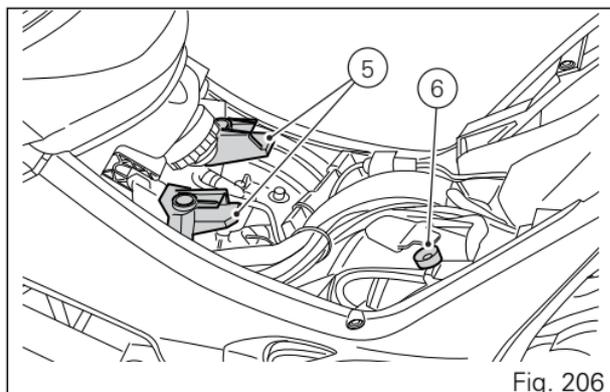

Fig. 206
Position rider seat (4) front end, with slots (7), into guides (5, Fig. 206) and engage pin (6, Fig. 206) into its housing (8).
Make sure that pin (6, Fig. 206) is engaged in its housing (8).